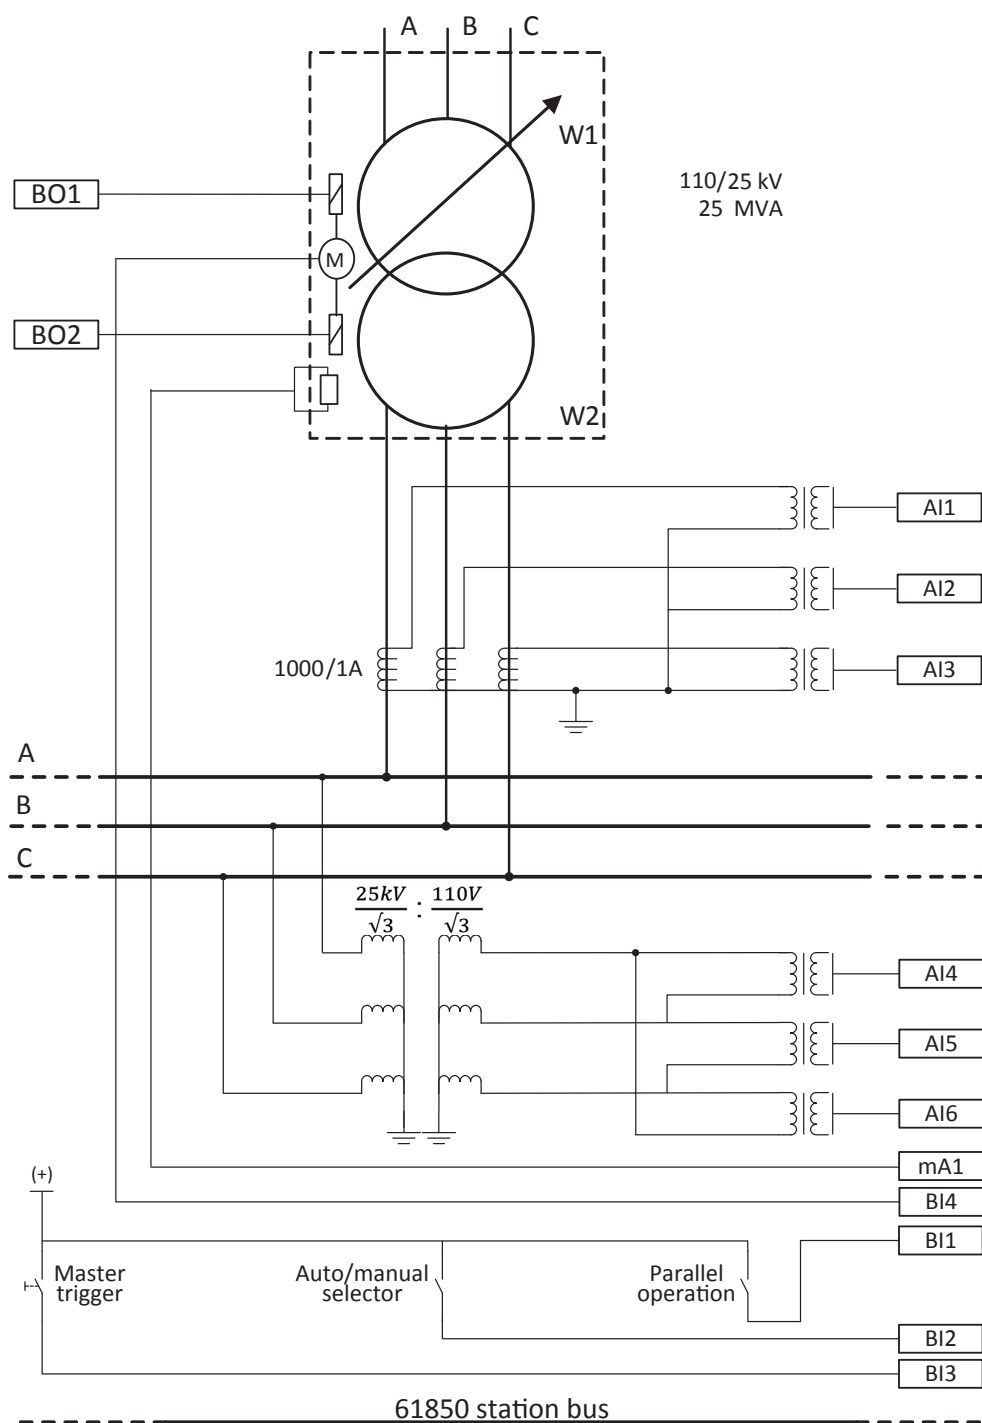

Figure 50: Relay 2 interfaces and CT/VT connections for TR2 in example case 3
Figure 50 shows the connection details of the relay's (Relay 2) analog inputs (AI), binary inputs (BI), milli-Ampere (mA) inputs and binary outputs (BO) for transformer TR2 of the example case. The CT connections for phase current measurements in all phases and the VT connection for voltage measurement on the MV side are also shown in the figure. In the example case illustrated, the tap changer position value is input as an mA input for transformer TR2 and input to TPOSYLTC.